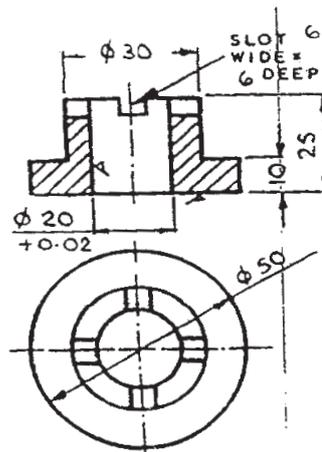

Fig. No. 2
- Q12)** Design a Milling fixture for machining 6 mm wide slots for a component shown in fig. no.2. [20]